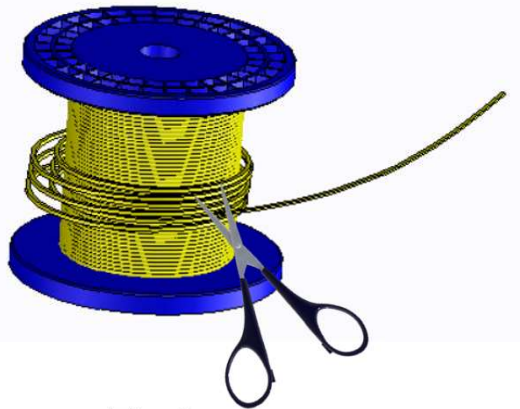

Fig.9
- ① When wire winding become loose or complicated tangling, please hold the wire with your finger and cut tangling area. (Fig.9)
- ② Unwind wire until wire-end will be single.